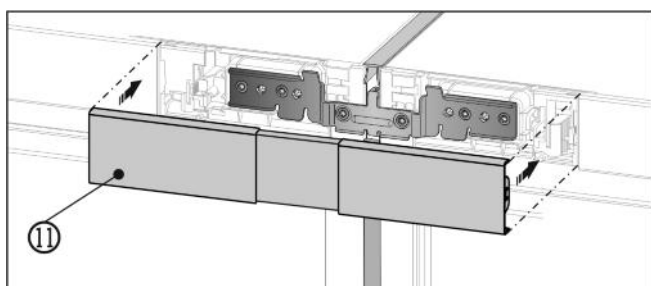

Fig. 15
- Snap the top cover Fig. 15 (11) onto the still open gap between the two control panel trims. Make sure that the outer sides of the cover form a flush finish with the control panel trims